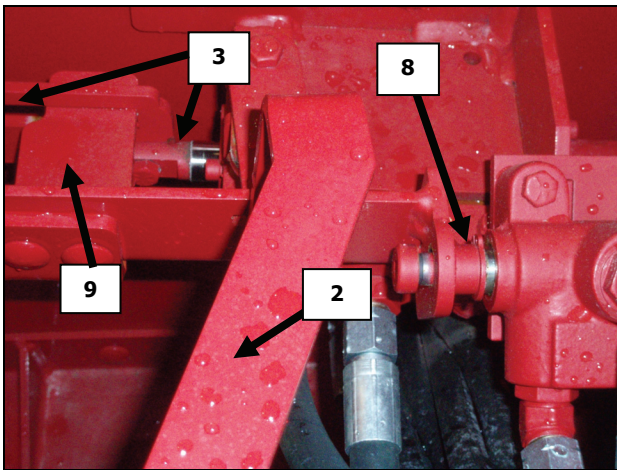

Figure 8.2 Hoop lever
8.2 → Push the lever (Figure 8.2 #2) toward the rear of the bale wrapper to make the slide come out of the valve (Figure 8.2 #8), then push the lever toward the front of the bale wrapper until the plate (Figure 8.2 #9) very lightly touches the end of the slot in the part (Figure 8.2 #3) without moving it.